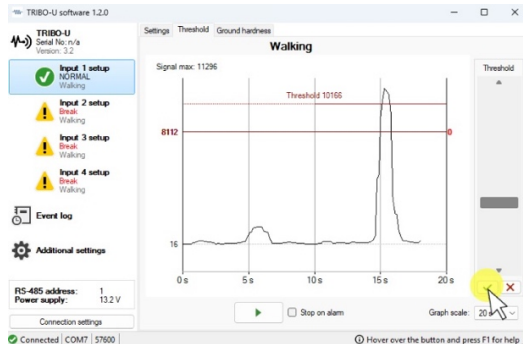

Fig. 23
- Confirm the threshold setting with a green check mark. (Fig. 23)